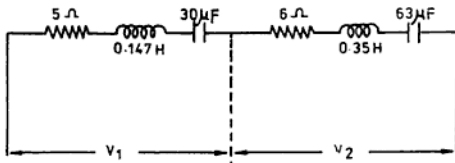

Fig. NE 11.29
- 11.29 The circuit shown in Fig. NE 11.29 is connected to a  $110 \text{ V}$ ,  $60 \text{ Hz}$  supply. Calculate: